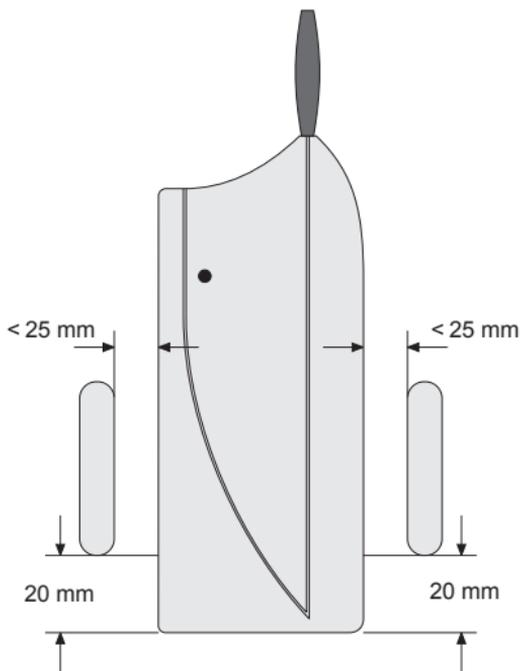

Figure 13
- As a rule, the magnet is mounted on the moving part (window or door, for example) and the 'FHT80TF-2' door/window contact sensor is attached to the static part (window or door frame). Please observe the recommended distances between the magnet and the door/window contact that are illustrated in figure 13 on the previous page.
- If you use the supplied magnet (for the internal magnet contact), attach it using the enclosed double-sided tape (please note the recommended distances that are illustrated in figure 13 on page 22). Alternatively, you can use 2 screws to attach the magnet (remove the magnet's casing with a flat screwdriver).